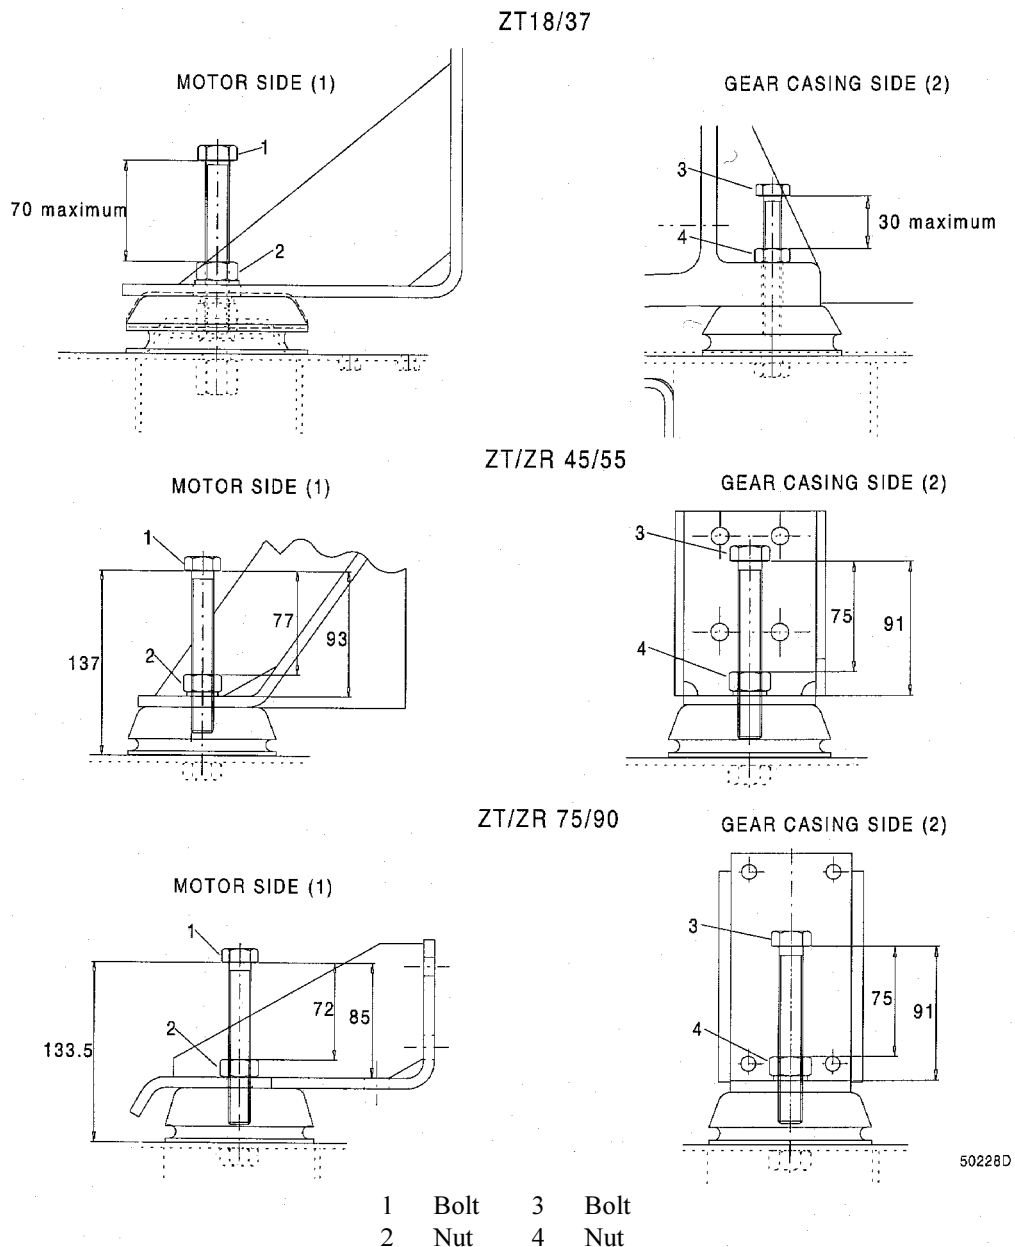

Fig. 3.1 Vibration dampers
4. The compressor gear casing and motor are secured to the frame immobilizing the vibration dampers during transport. After installing the compressor, loosen the nut (2 or 4 – Fig. 3.1) of the long central bolt of each damper, unscrew the bolt (1 or 3) as far out as indicated on Fig. 3.1 and tighten the nut again.
- Remove the cover of the air filter housing (22) and the air filter. Take out the silicagel bag. Remove the tape closing off the air inlet opening on the inside of the air filter housing. Reinstall the air filter and cover.
- Remove the flange of pulsation damper (23) and take out the silicagel bags. Reinstall the flange.